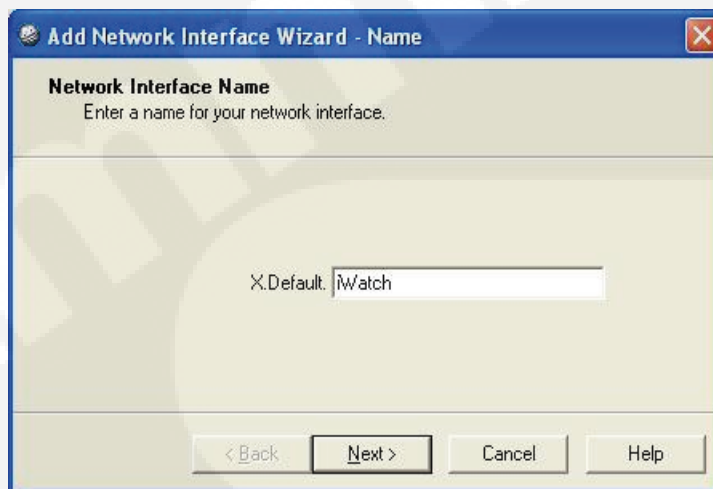

FIGURE 4-18. NAMING THE NETWORK INTERFACE
6. Name the Network Interface iWatch, and click **Next** (see Figure 4-18).